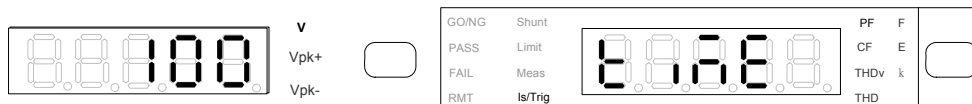

Figure 4-37 Setting TIME and Time Length
6. In the special measurement display a blinking pattern will appear. Use \uparrow , \downarrow to select time and press **Enter/Trig** to save the setting and go to measurement Time (ms) selection display as Figure 4-37 shows.